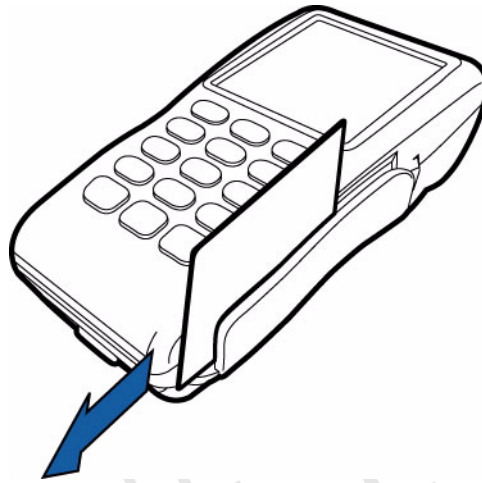

Figure 32 Using the Magnetic Card Reader
- 2 To ensure a proper read of the magnetic swipe card, the user should insert the magnetic card from the top of the unit, as shown in Figure 32.